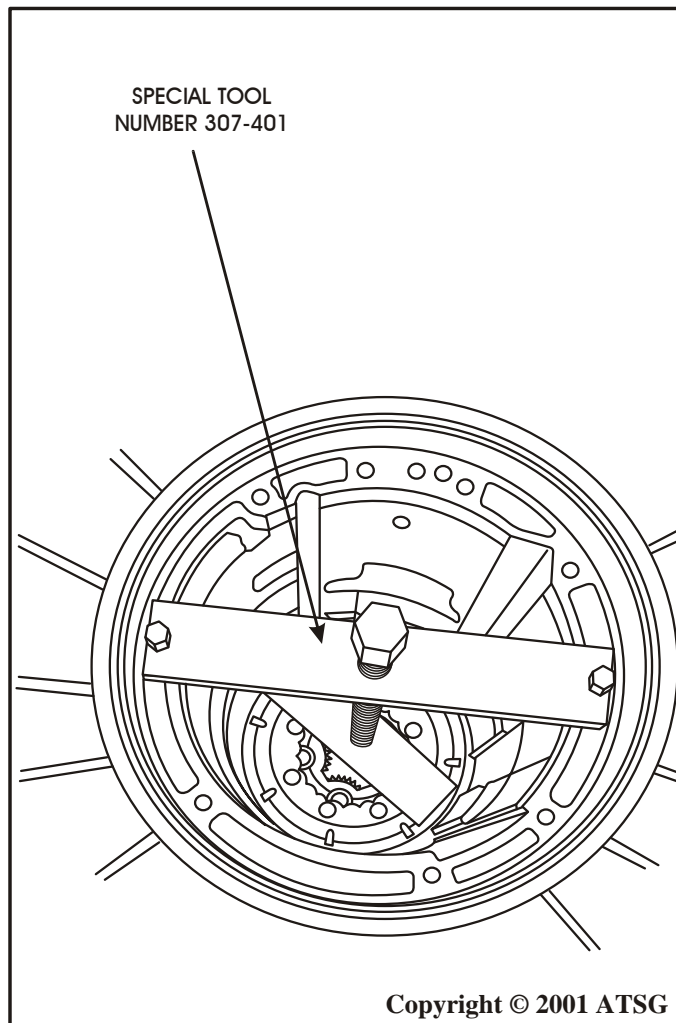

Figure 49
57. Install Special Tool 307-401, to compress the intermediate clutch return spring, as shown in Figure 49.